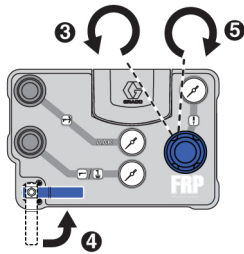

FIG. 18
- Turn the main air supply pressure regulator fully counter-clockwise to relieve pressure and set to zero pressure. See FIG. 18.
- Turn the main air supply ball valve to the open position. See FIG. 18.
- Slowly turn the main air supply pressure regulator clockwise until the pump starts to move and will change-over by itself. Never turn past 20 psi (0.14 MPa, 1.4 bar). See FIG. 18.